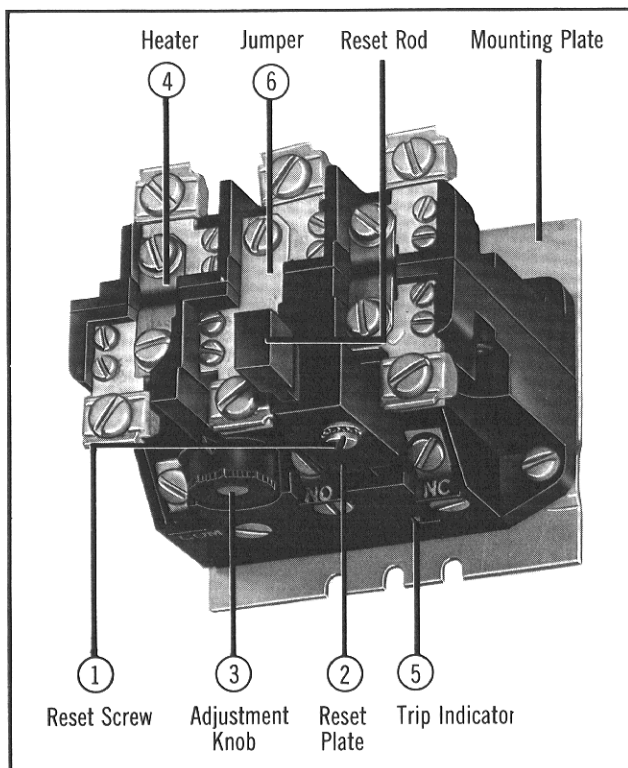

Figure 1 - Size 1, 2, or 3 Pole Overload Relay for Panel Mounting
The Westinghouse Type A, 2 or 3 Pole Overload Relay, Figure 1, must be installed in a vertical position with the adjustment knob (3) at the bottom. The relay is accurately calibrated at the factory and should not be tampered with. Installation should be made with the proper wire size for the application and all wires should be securely fastened to the relay.
**Manual or Automatic Reset** - The overload relay is normally furnished set for "HAND" reset operation. The relay may be set for either "HAND" or "AUTO" reset by slightly loosening the screw (1) holding the reset plate (2), moving the plate to the proper position marked on the molded case and retightening the screw. (See Figure 1). Automatic reset should not be used with 2-wire master switch or where automatic
**Adjustable Trip** - The trip rating of a specific heater element can be adjusted over a range of approximately 85% to 115%. This is accomplished by turning the adjustment knob (3) on the bottom of the relay to the respective stop position. With replaceable heaters (4) in approximately 10% current increments the relay is capable of being adjusted over this 10% range to permit the desired close protection.
**Trip Indication** - An immediate visible indication of trip is standard on the Type A overload relay. When an overload occurs, which causes the relay to operate, a trip indicator (5) projects out through a small opening at the bottom of the relay. (See Figure 1).
**2 or 3 Pole Protection** - Overload relays are suitable for either two or three pole protection. Two pole overload relays can be converted to three pole protection by removing the jumper (6) in the center pole and inserting the correct heater. However, when the overload relay is used for three pole protection, heaters must be applied according to the heater application table for 3 pole overload relays.
be approximately 105% to 125% of rated motor current. The rating of a heater is 125% of the minimum full load current. Heaters are not included with the relays and must be ordered separately per heater application table. When installing heaters be sure that connecting surfaces are clean and heaters are attached securely in the proper location with the screws provided. (See Figure 1).